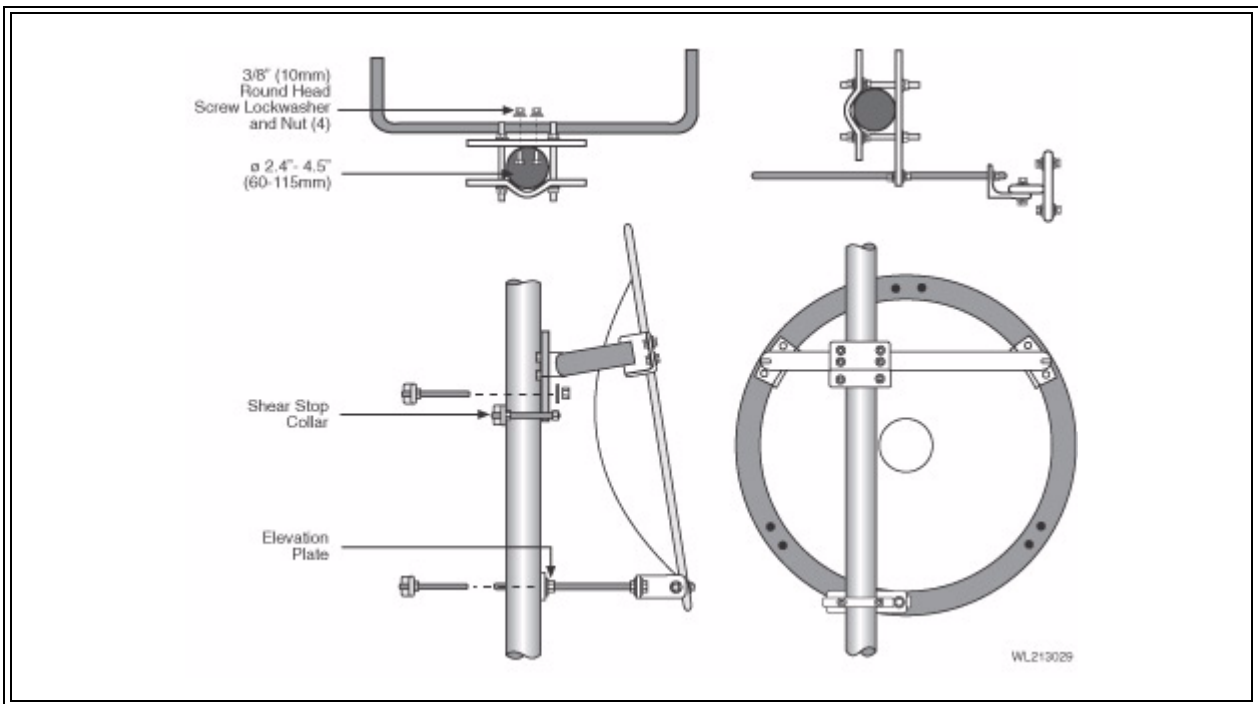
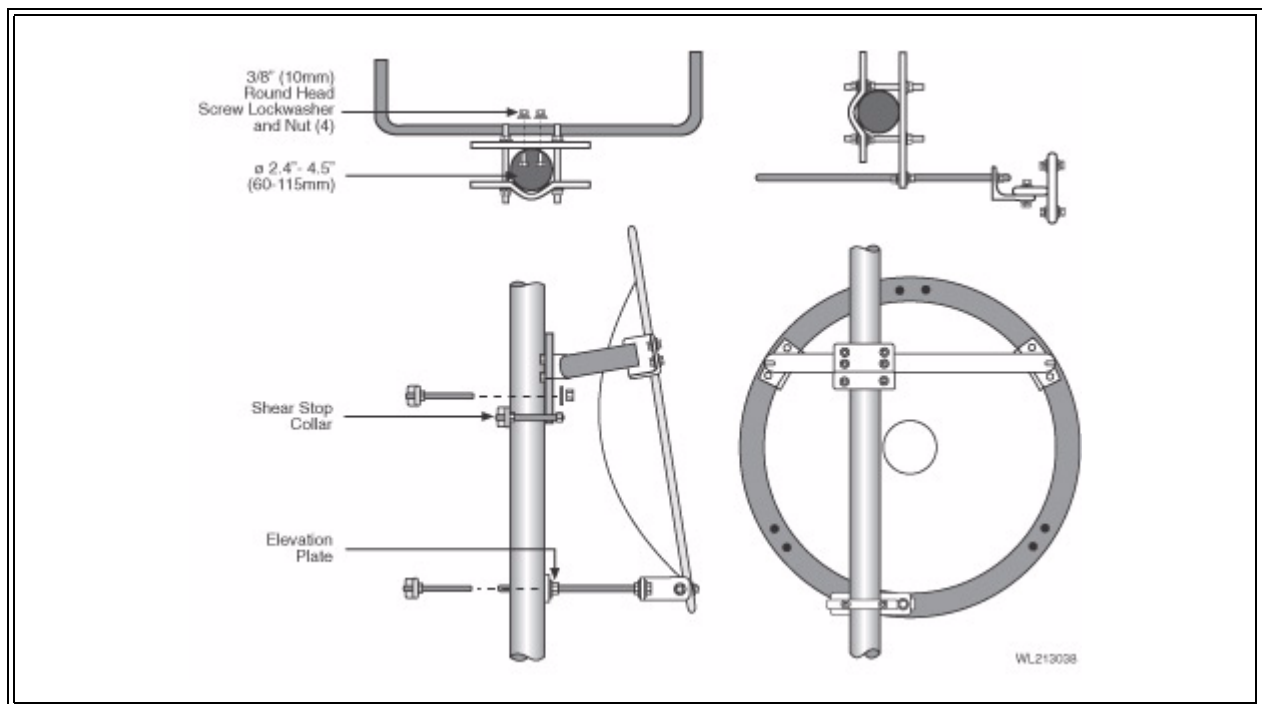
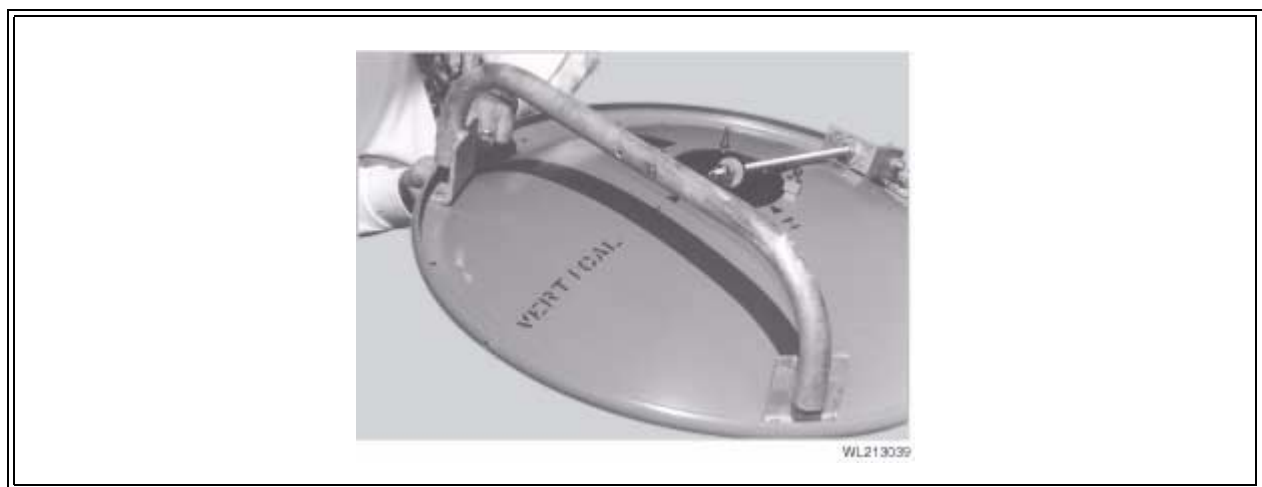

Figure 4-15 Mount Configuration
Figure 4-20 Antenna Mount Assembly
Figure 4-21 Antenna Mount Assembly
- 30 The antenna is normally assembled with an elevation adjustment range of +50 degrees to -5 degrees. By inverting the mount, it can be assembled with a +5 degree to -50 degree range. In either configuration, the antenna centerline can be offset right or left, relative to the vertical mast pipe (see Figure 4-15) by inverting the Horizontal Tube Assembly.
- 34** Loosely attach Top Support Angles to the Horizontal Tube Assembly as shown in Figure 4-20 and Figure 4-21.
- 35** For desired mount configuration (see Figure 4-15), attach the Vertical Tube Assembly to the Horizontal Tube Assembly as shown in Figure 4-20 and Figure 4-21.
- 37** Carefully place mount assembly onto antenna backring, taking care not to damage the reflector. Loosely fasten the Top Support Angles and the Elevation Support Angle to the antenna backring using 1/2" hardware as shown in Figure 4-20.